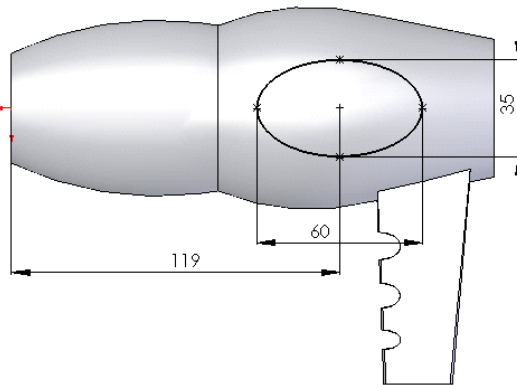

Figure 15-133 Sketch to be projected
- g. Create dip on the top surface of the hair dryer, refer to Figures 15-133 through 15-138.
3. Create the sketch as shown in Figure 15-133 and exit the sketching environment.